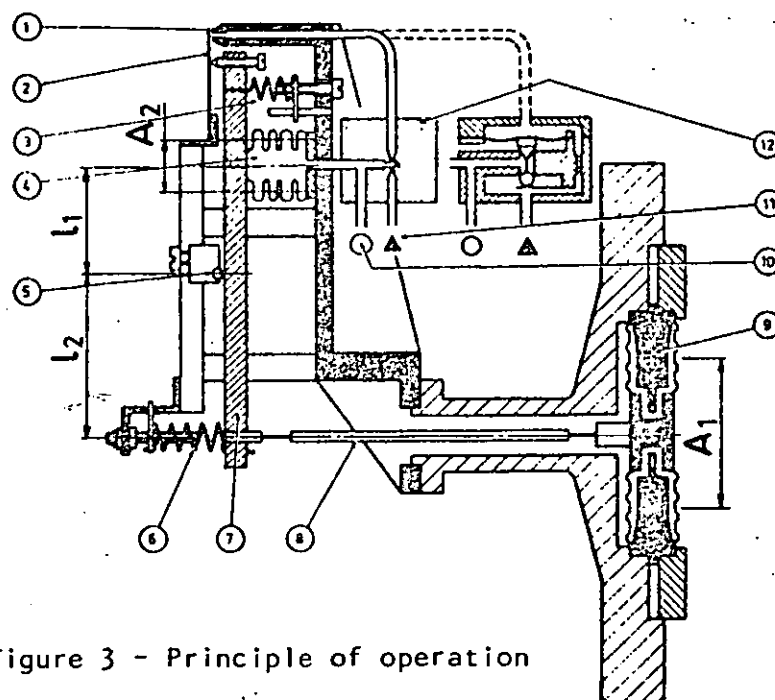

Figure 3 - Principle of operation
3. PRINCIPLE OF OPERATION (Fig. 3)